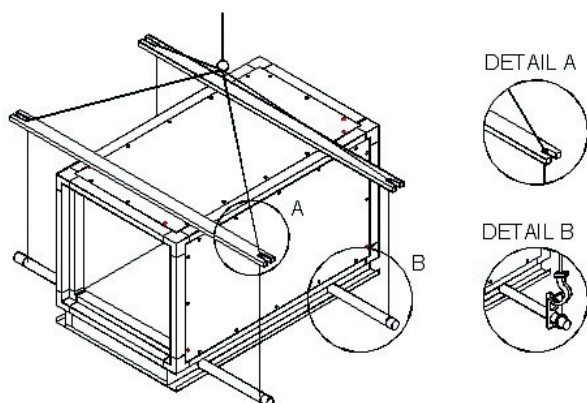

Figure 6
- For lifting, apply steel hoisting ropes or chains; in all cases, apply two spacer supports (Figure 6, detail A). The tubes must be provided with appropriate guards at both ends (Figure 6, detail B).